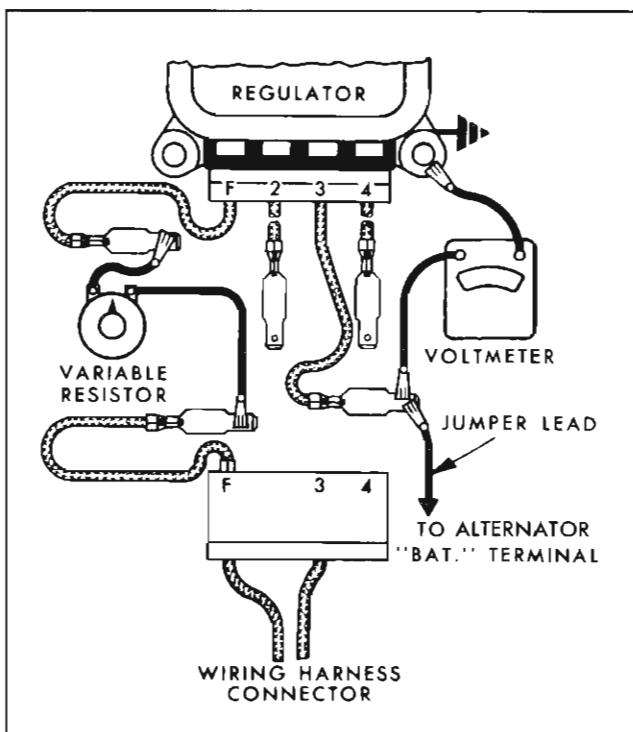

Fig. 11-31 Checking Voltage Setting
- Make connections to the adapter as shown in Fig. 11-31. Use a 25 ohm 25 watt variable resistor in series with the field winding at the regulator "F"